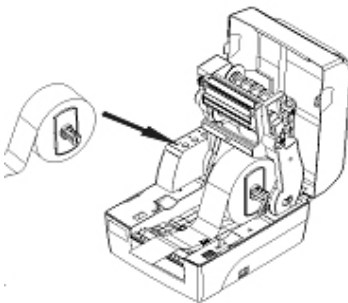

Figure 2.2.3
- 4) Place paper roll on the paper holder to the paper cabinet, then pull out the front end of the paper and place it in the print path flatly, and also make the paper guide to hold it. (See figure 2.2.3);